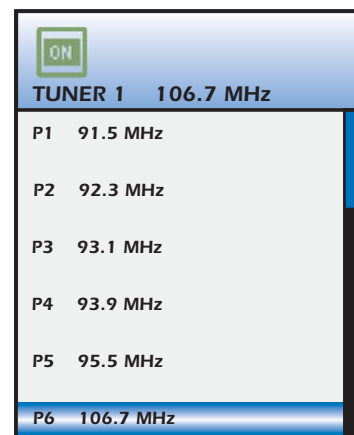

Figure 39
2. Press the **Click Button** to **select the highlighted Tuner**. The selected tuner will appear at the top of the LCD with the Presets and functions displayed in the LCD. (Refer to Figure 39)